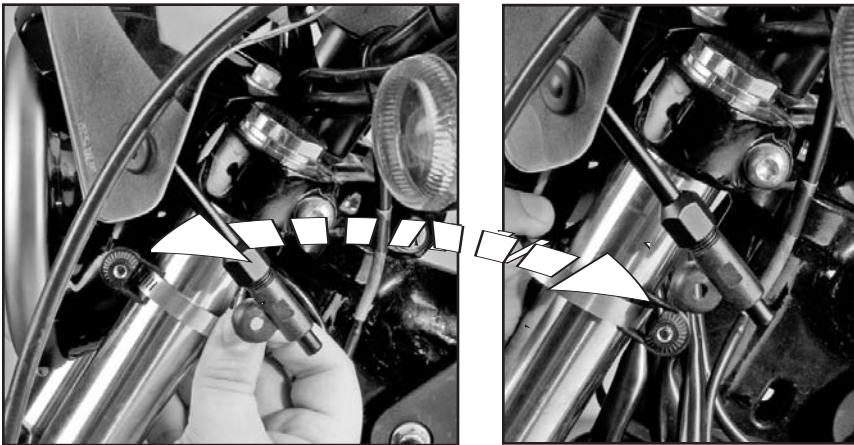

Figure 10
15. Slide the Left Collet Tube onto the Left Lower Rod. Determine where to mount the Fork Boss. **Figure 10 and 10a**
16. Thread one Fork Boss through a hose clamp. Loosely attached Hose Clamp to fork. Screw head of Hose Clamp faces to the rear of the motorcycle. (Flat Blade Screw Driver) **Figure 10 and 10a**